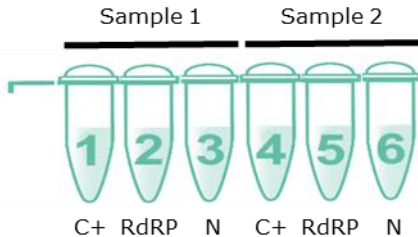

Figure 1: A strip of 6 microtubes allowing the amplification of 3 sequences of alien (C+ : positive control), RdRP and N genes for 2 samples
- For the 2 samples in parallel: RT-LAMP amplification with the reaction buffer and the primers distributed in the microtubes (assay tubes), see Figure 1.
- Alien gene : a non-natural sequence used as internal control for the amplification process – positions 1 and 4 on the strip of microtubes (see Figure 1).
- RdRP Gene : target specific to betacoronavirus (β CoV) human pathogens belonging to B and C groups (SARS-CoV-2, SARS-CoV and MERS-CoV) - positions 2 and 5 on the strip of microtubes (see Figure 1)
- N Gene : target specific to SARS-CoV-2 - positions 3 and 6 on the strip of microtubes (see Figure 1).
- c) Use the orange pipette fitted with a filter-tip to aspirate a 25 μ L volume from the orange tube and dispense this volume in each microtube corresponding to the tested sample (see Figure 1), which means :
For each of the two samples (see Figure 1 for the position), the analysis of the results shall be performed pursuant to the following table :